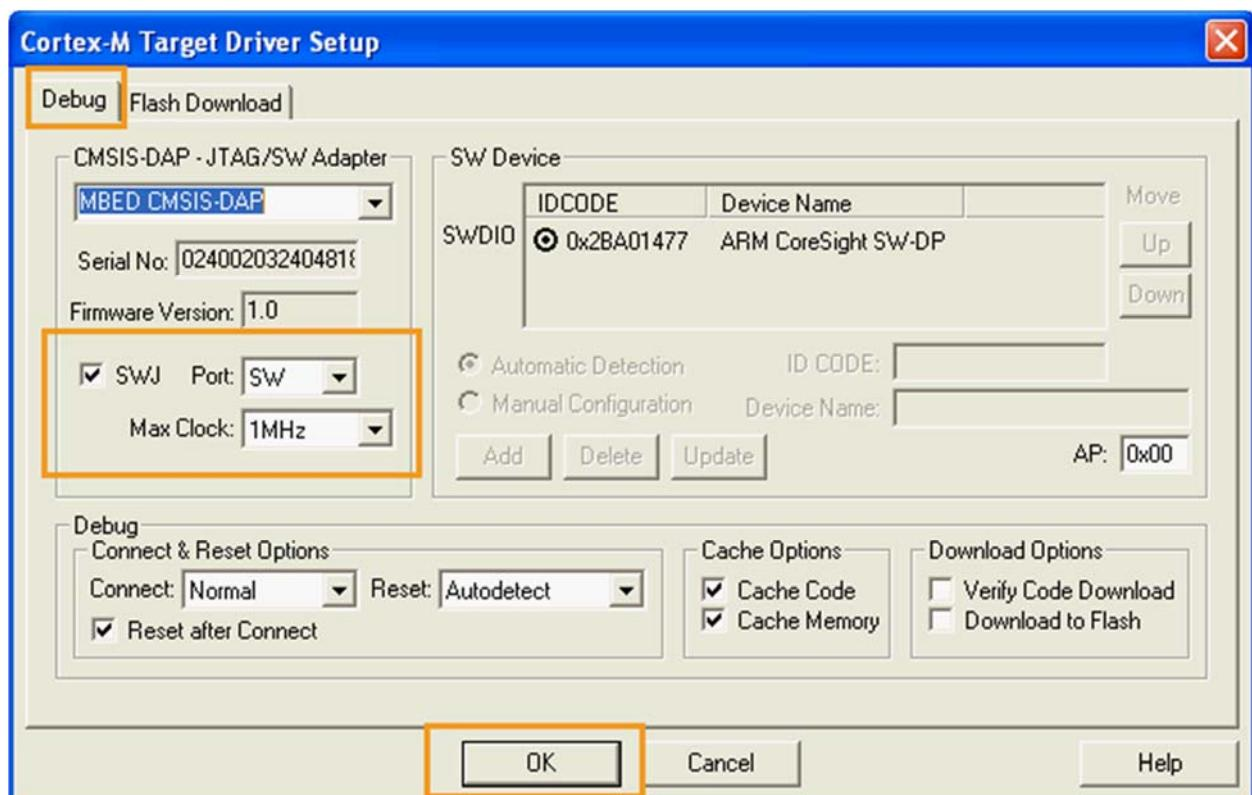

Figure 50. Setting the debug parameters on LinkIt 7687 HDK
- 7) Click **Settings** to switch to **Cortex-M Target Driver Setup**, then select **Debug** tab to set the configuration parameters and click **OK**, as shown in Figure 50.